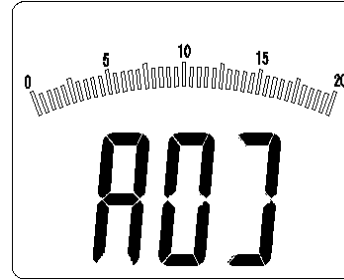

Figure 3-1-4B
- Cover the opto-sensor with the visor, and press and hold “HOLD/ZERO” key for one second, “ADJ” will appear on LCD interface (as shown in figure 3-1-4B), then the device will enter the zero calibration mode. Several seconds later, “ADJ” on LCD interface will disappear, and zero calibration mode will automatically exit and return to auto measurement mode.